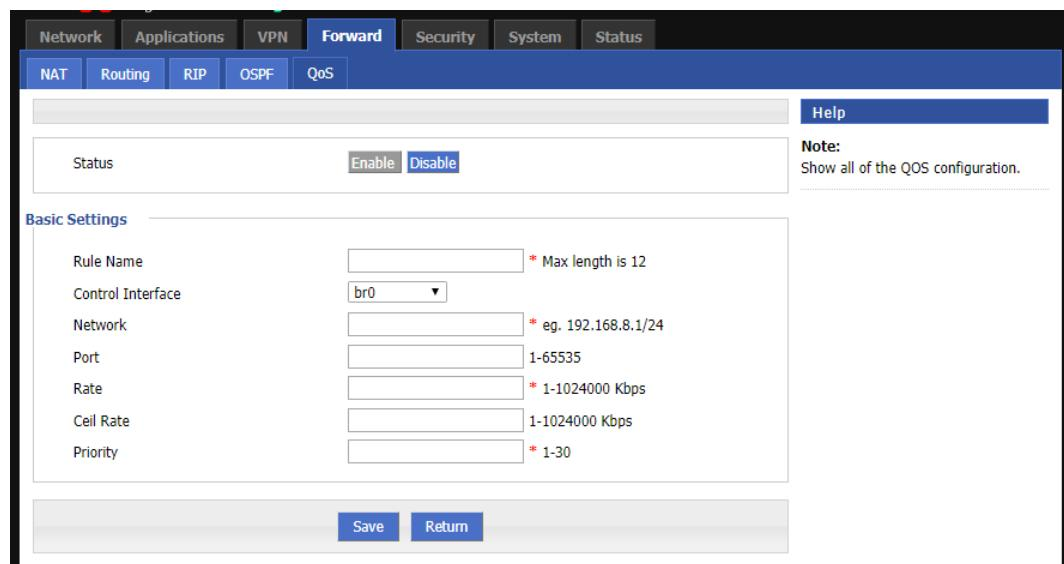

Figure 5-42 QoS configuration interface
Step 3 Click Add to create a new QoS rule. The configuration interface is shown in Figure 5-42